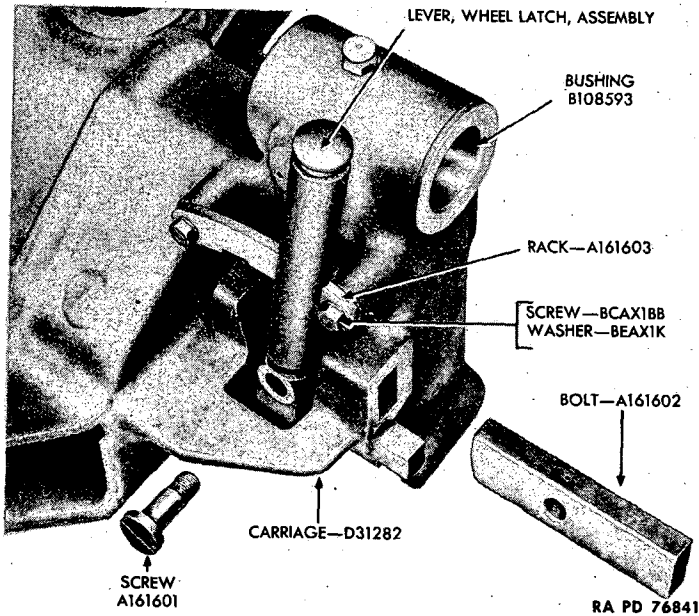

Figure 138—Wheel Latch Lever Group
- (9) **DISASSEMBLY OF WHEEL CARRIER LATCH** (figs. 138 and 139).
- (2) ASSEMBLE FIRING BASE LOCK (figs. 138, 140, and 141).
- (3) ASSEMBLE WHEEL CARRIER LATCH (figs. 138 and 139).